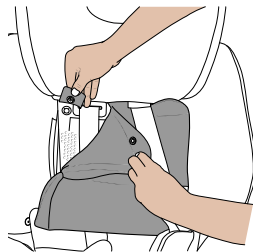

Figure 3
Step 3. Release the press studs connected to the hard goods (Figure 3).